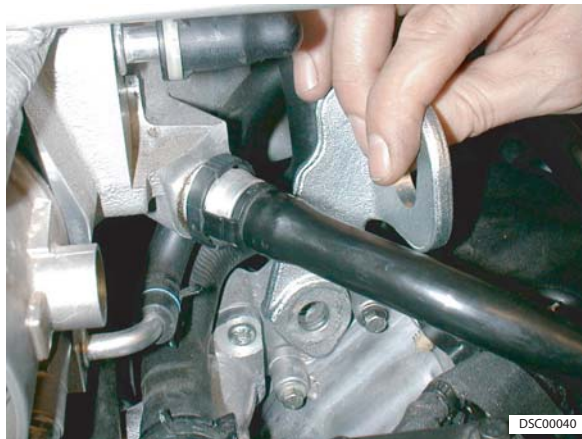

Figure 1
5. Remove engine lifting brackets (refer to Figure 1).